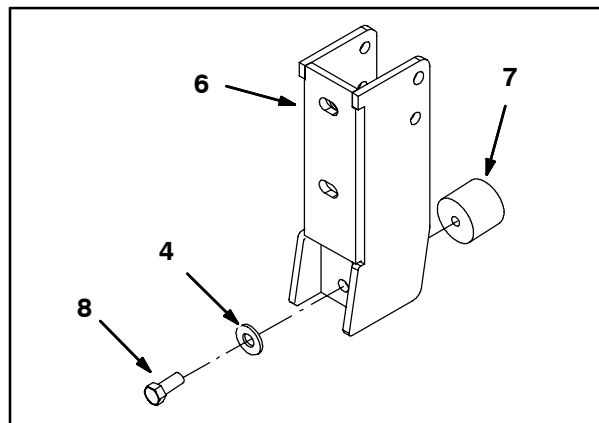

FIG. 2
2. Use a hex screw (8) and a flat washer (4) to install a bumper (7) onto each squeegee guard channel (6). Refer to Fig. 2.